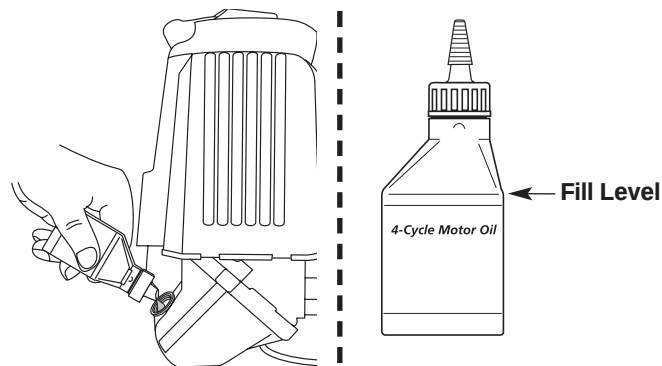
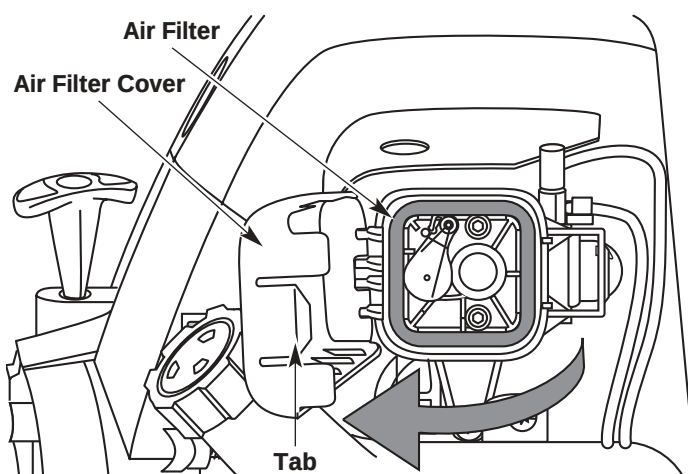

Fig. 43
Fig. 44
NOTE: Use the bottle and spout saved from initial use to measure the correct amount. 3.4 ounce (100 ml) is approximately to the top of the label on the bottle (Fig. 44). Check the level with the dipstick. If the level is low, add a small amount of oil and recheck. Do not overfill (Fig. 43).
1. Open the air filter cover. Push the tab on the right side of the cover in, pull the air filter cover out and to the left (Fig. 44).
2. Remove the air filter (Fig. 44).